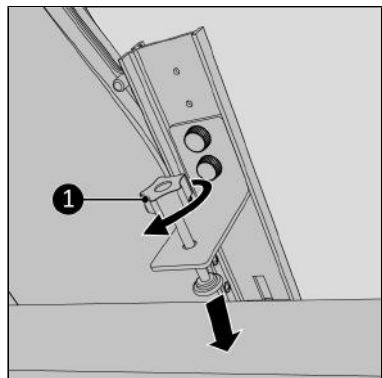

Figure 101.
14. Screw the clamping screw carefully to the frame (Figure 101, pos. 1).